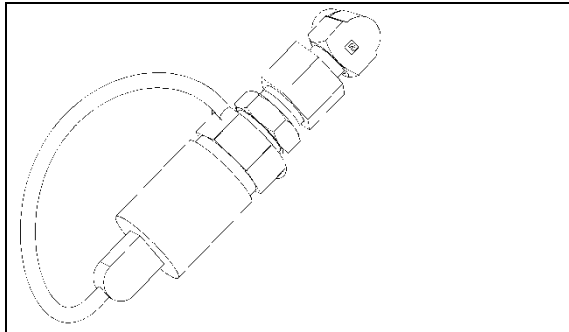

FIGURE 2: HANSEN QUICK COUPLING
- Pressurize system periodically using Hansen Quick Coupling (Figure 2).